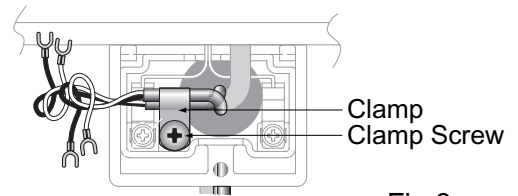

Fig.3
11. Loosen the clamp screw and secure wire cable with clamp. The clamp is in the box with the remote controller. Make sure the length of the wire is long enough. There should be no tension in the wire. (Fig. 3)